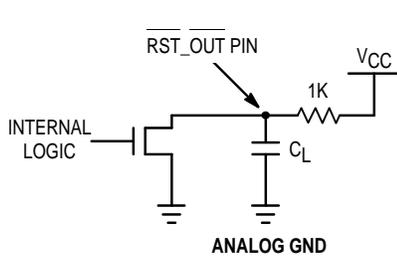

Figure 4. RST_OUT Test Circuit
- The $\overline{RST_OUT}$ pin is an open drain N-Channel output. Therefore an external pull-up resistor must be provided to pull up the RST_OUT pin when it goes into the high impedance state (after the MC88920 is phase-locked to the reference input with RST_IN held high or 1024 'Q' cycles after the RST_IN pin goes high when the part is locked). In the t_{PLZ} and t_{PZL} specifications, a 1K Ω resistor is used as a pull-up as shown in Figure 4.